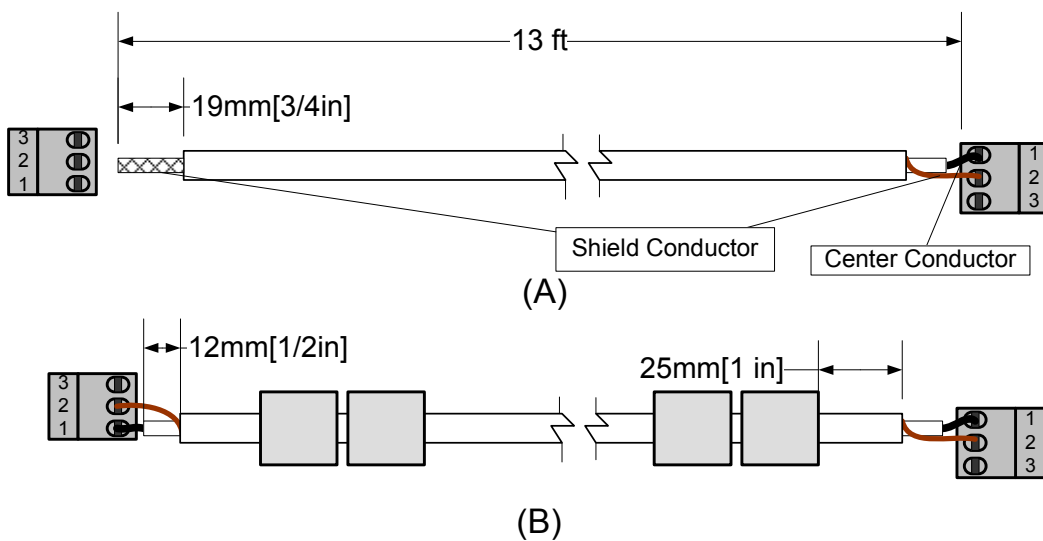

Figure 7 RG 59 Coax cable wiring diagram
1. Figure 7 RG 59 Coax cable wiring diagram (B) shows the RG59 cable assembly been completely terminated with ferrite cores clamped on both ends.
- Step 2:** Plug the pre-terminated RG59 coax cable onto coupler board J5, then mount two (2) ferrite clippers close to the connector (see *Figure 7 RG 59 Coax cable wiring diagram*).